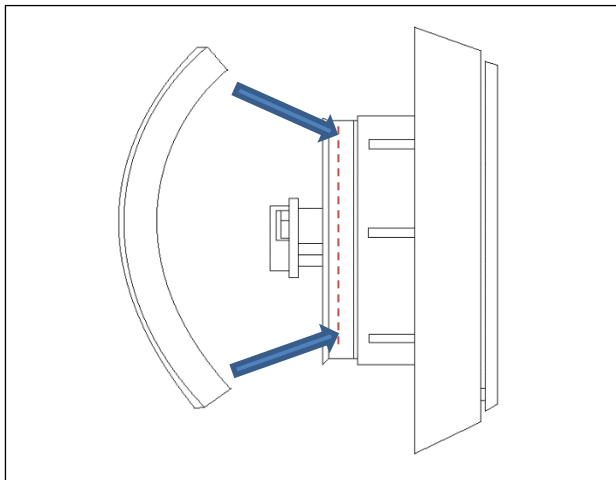

Fig.8
2. Unpeel the paper film from the foam strip provided and apply the strip around the spigot of the valve mounting plate in the area detailed below– see Fig 8.